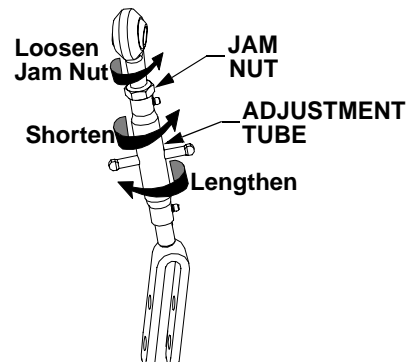

Figure 28
- Adjust the RH adjustable lift link to *level* the lower hitch links. Loosen the jam nut and turn the adjustment tube as shown in Figure 28 to shorten or lengthen the lift link. Tighten the jam nut against the adjustment tube after adjusting.